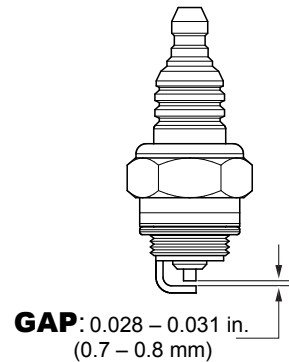

Figure 32. Spark Plug Gap
1. Remove and clean the spark plug (Figure 32).